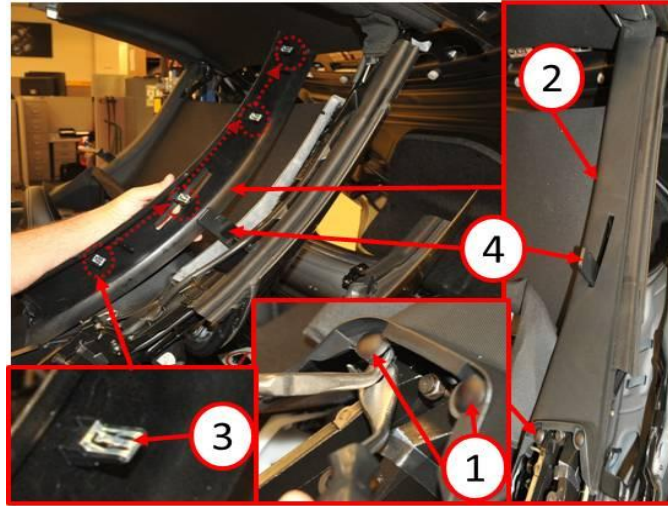

Fig. 3 Upper C-Pillar Trim Removal
4. Remove the upper C-pillar trim (2) from both the left and right side of the hard top assembly to gain access to the down capture hook assembly (4) (Fig. 3).